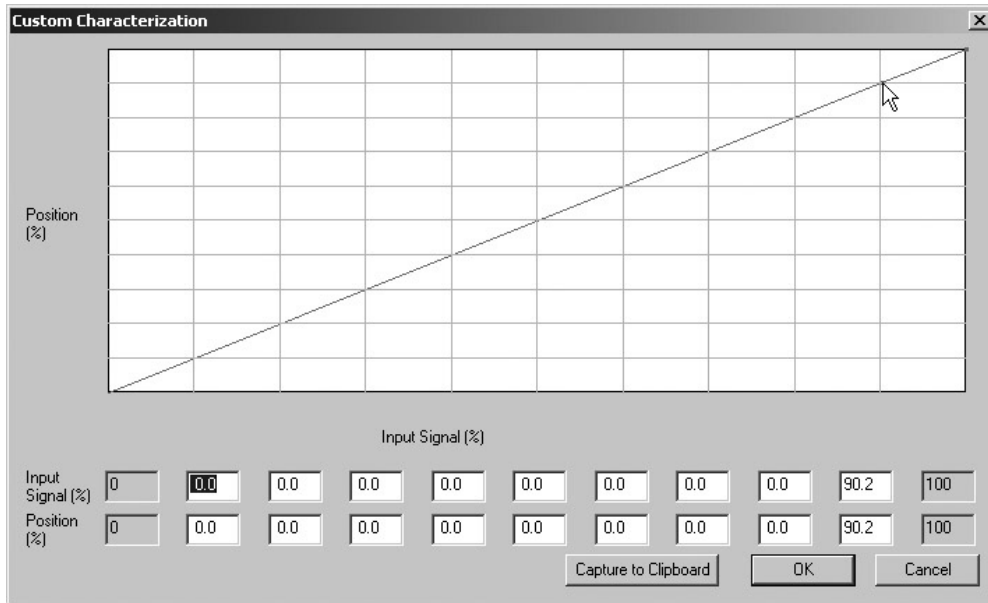

Figure 74 Adding the First Data Point
1. Adding data points by placing the cursor on the curve and left-clicking (Figure 74).